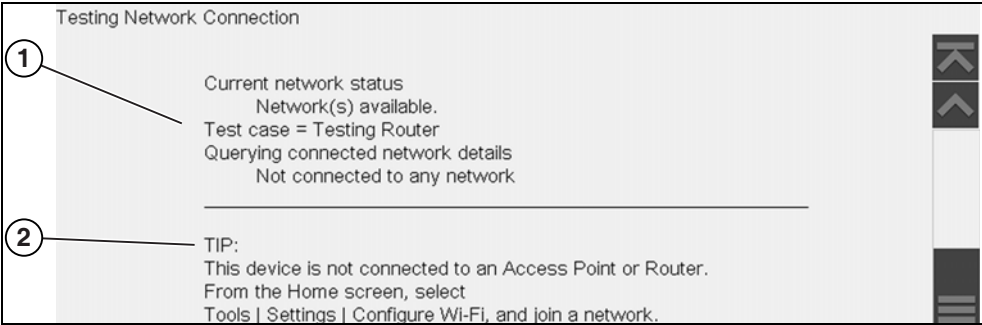

Figure 11-5 View Summary
4. If a connection issue(s) is present, select **View Summary** to review the results. The summary information is helpful if you are experiencing difficulties with your connection (Figure 11-5). Scroll through the summary information to review the test results for each system and Tip messages for the current connection issue. See *Connection Tests - Troubleshooting* chart in “Wi-Fi Troubleshooting and Status Messages” on page 77 for additional information.